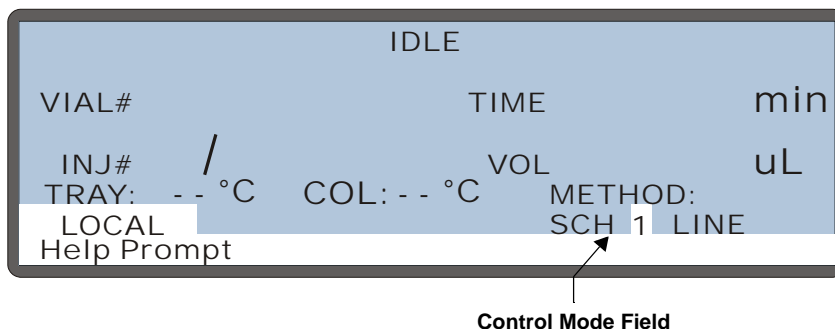

Figure 3-6. Main Status Screen—Schedule Control Mode
2. Position the cursor in the control mode field and press **Select**  $\Delta$  or **Select**  $\nabla$  to toggle to **SCH** (schedule) control (see Figure 3-6).